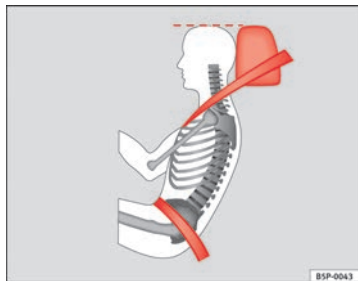

Fig. 14 Correct seat belt and head restraint positions, viewed from side
- The lap part of the seat belt must lie across the pelvis, never across the stomach. The seat belt must lie flat and snugly on the pelvis ⇒ fig. 14. Pull the belt tight if necessary to take up any slack.